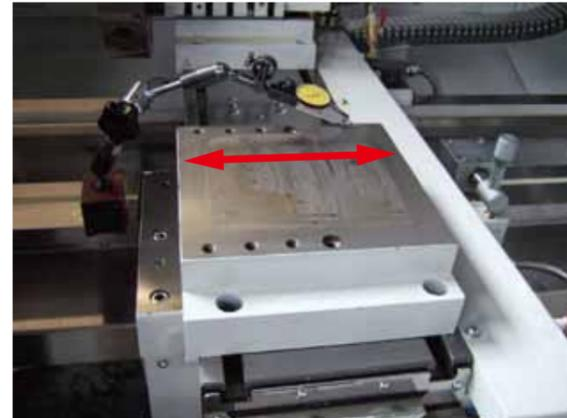

Fig.14
3) Move the saddle along Z-axis (see Fig. 14) and measure the maximal difference. Ensure the accuracy to be within 0.01mm.